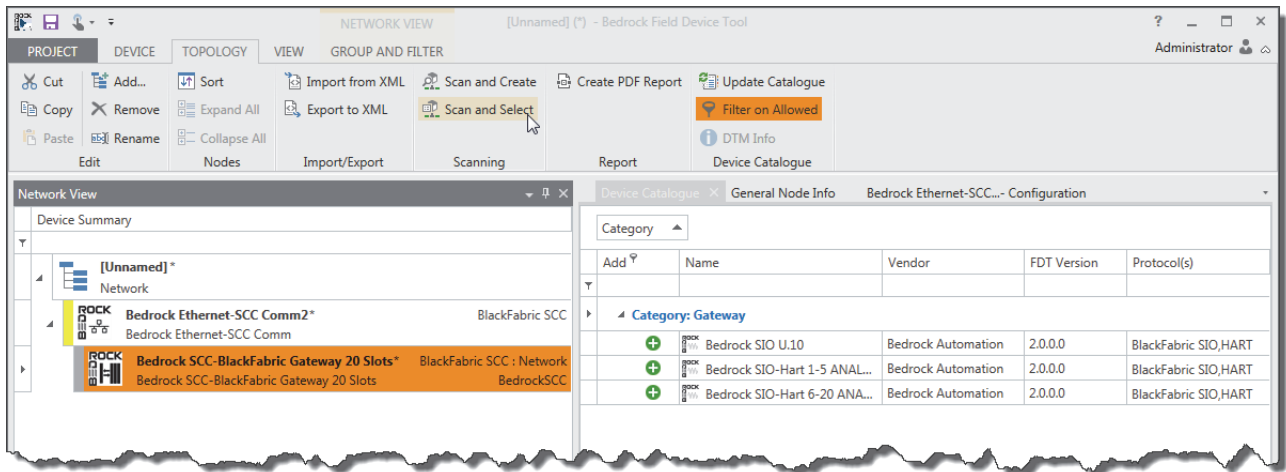

Figure 11-8 Select and Scan SCC-BlackFabric DTM in Network View
9. The Network View pane will be updated with the selected DTM(s) as shown in Figure 11-8. Select an SCC-BlackFabric DTM in the Network View to display a list of gateway DTMs for SIO-Hart.
- To automatically add a gateway DTM for SIO-Hart, click Scan and Select on the Ribbon as shown in Figure 11-8. The